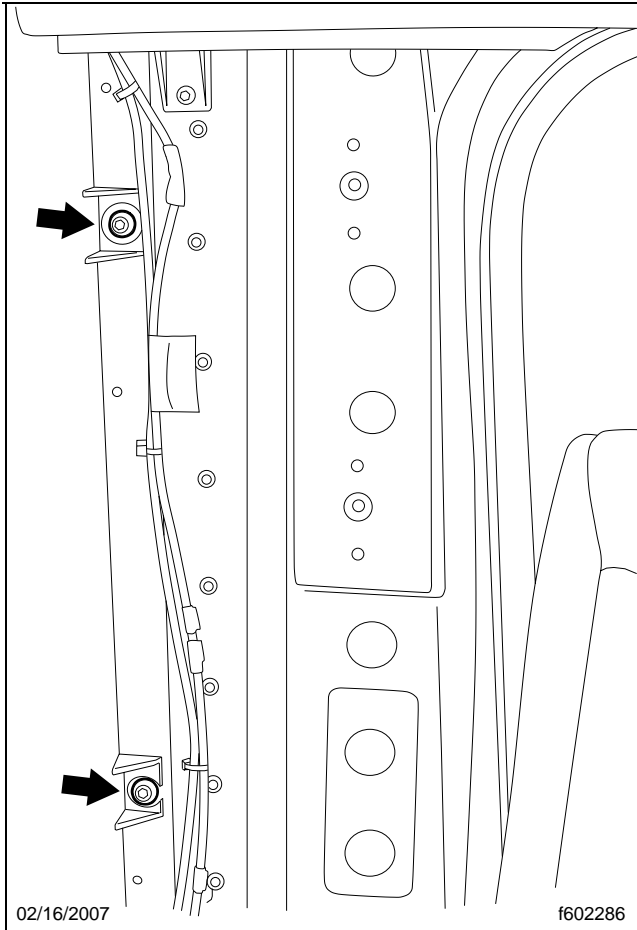

Fig. 19, Cabinet-to-Side Wall Fasteners Behind Seat
13. Remove the two screws and washers that attach the cabinet to the cab side wall behind the seat. See **Fig. 19**.
3. Install the two screws and washers that attach the cabinet to the cab wall behind the seat. See **Fig. 19**.